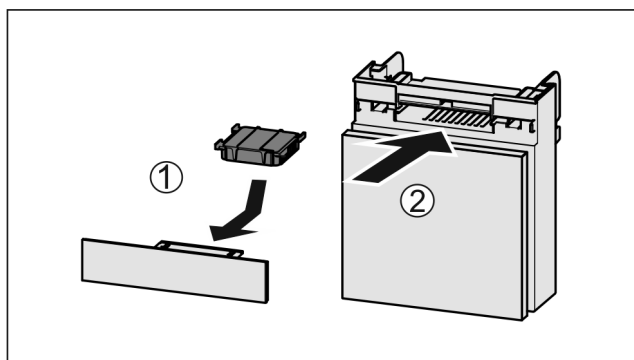

Fig. 34
- Insert the carbon filter as shown in the diagram Fig. 34 (1).
- Push the compartment in Fig. 34 (2).